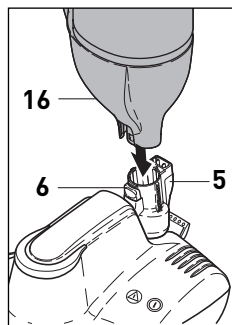

Figure 3
To attach the DISCO to your SEBO FELIX: place the DISCO on the floor with the swivel neck (5) upright. Hold the vacuum vertically and Insert the suction opening of the FELIX (16) into the swivel neck of the head. Push firmly and evenly downward until the head release button (6) snaps into the locked position. See figure 3.